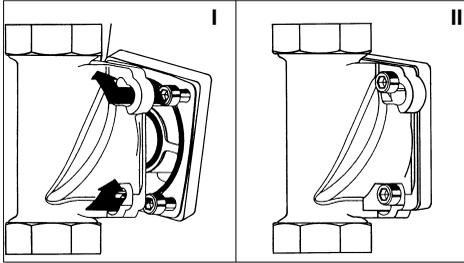

Fig. 2: built-in rotary flange with Bayonet Fixture
- Insert the four flange screws in the bayonet drill holes on the built-in rotary flange (see fig. 2 I).
- Turn the domestic water station in a clockwise direction as far as it will go (see fig. 2 II).